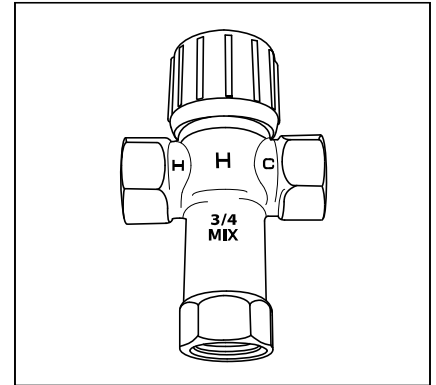

Figure 7 - Thermostatic Mixing Valves installed at each point-of-use can help prevent scalding.
- Point-of-use Thermostatic Mixing Valves (see Figure 7 on page 8).
Install Thermostatic Mixing Valves (Figure 7) to regulate the temperature of the water supplied to each point-of-use (for example, kitchen sink, bathroom sink, bath, shower). Consult the valve manufacturer's instructions or a qualified person.
**▲ WARNING!** Even if the water heater thermostat is set to a relatively low temperature, hot water can scald. Install Thermostatic Mixing Valves at each point-of-use to reduce the risk of scalding (see page 4 and Figure 7).